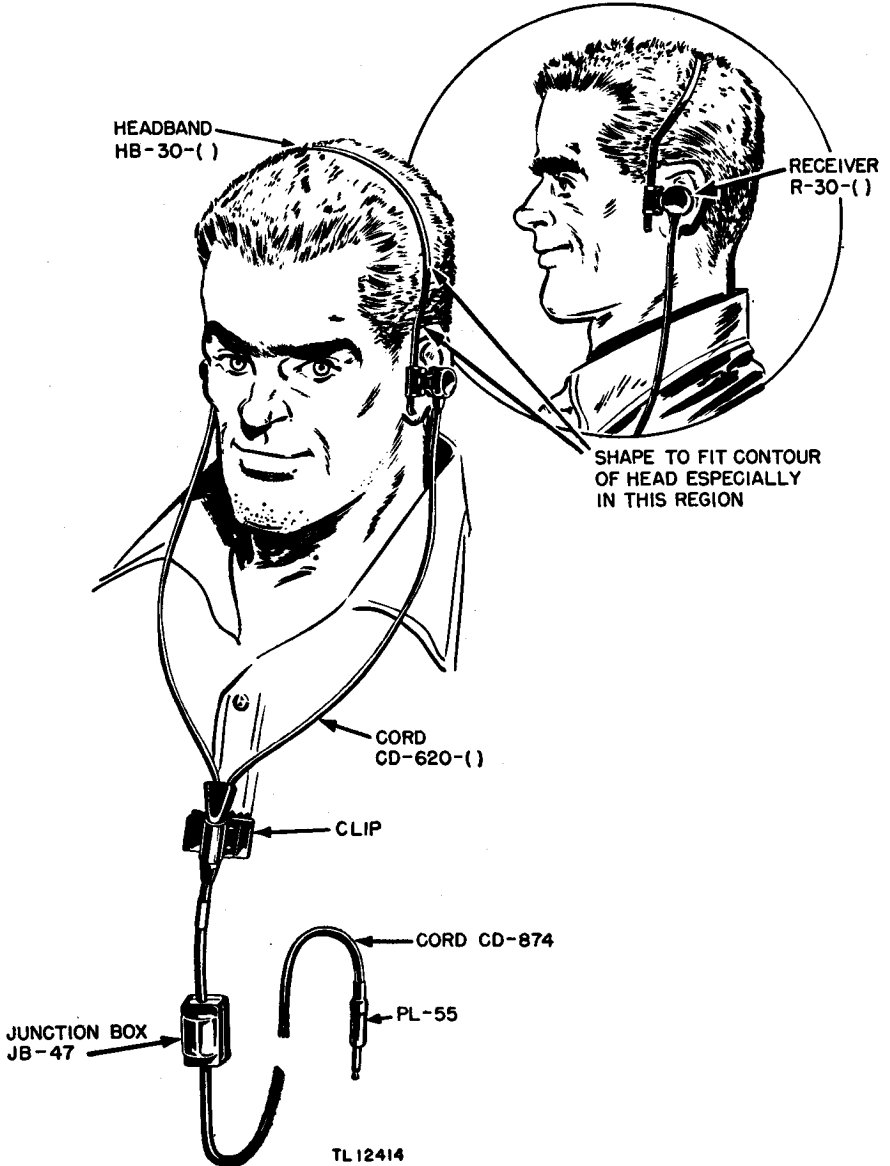

Figure 20. Headset HS-30-(), in use.
a. **HEADSET HS-30-().** Headset HS-30-() is a lightweight, close-fitting headset. Special soft rubber earpieces, fitted to the receivers of the headset, are designed to fit snugly into the ear cavities and exclude outside noises. The headband is a thin steel band that is adjustable to the contours of the operator's head. The clip on the headset cord should be attached to the operator's clothing to relieve the pull of the cord. (See fig. 20.)
Headset HS-30-() is used to monitor reception and transmission. It is usually worn by the man who carries the set when two men are using it for portable operation. Wear Headset HS-30-() as shown in figure 20. Adjust the position of the phone units and the headband so that the earpieces fit comfortably into the ear cavities. Fasten the clip provided on the cord to the clothing to relieve the pull of the cord.